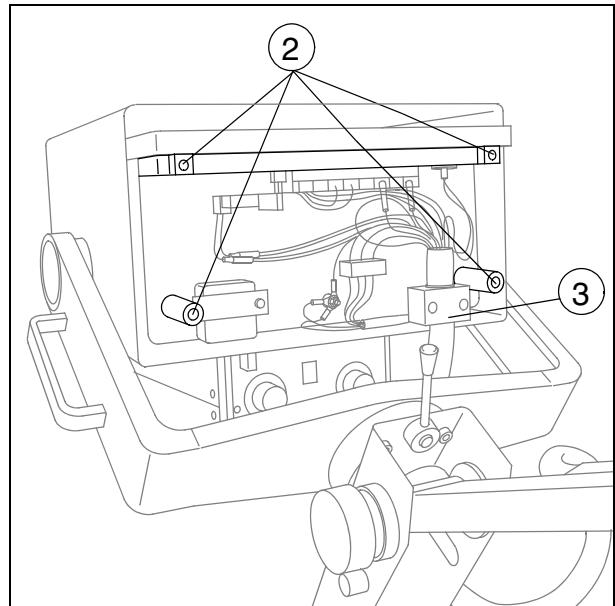

Fig. 2
- Remove the four Allen screws of the single tank generator cover (2/Fig. 2), remove the cover, disconnect the connections and the strain relief of the corrugated tubing (3/Fig. 2) and remove it.